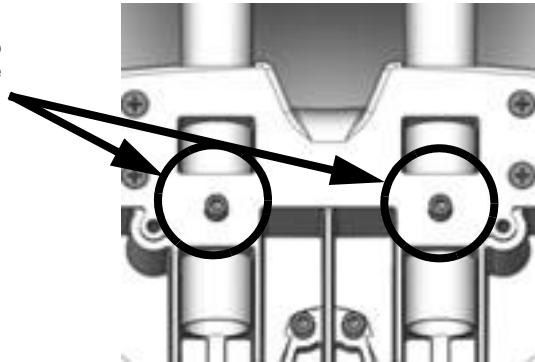

Figure 3-5. Remove Screws to Release the Back Handle Frame
2. Release both of the screws holding the back handle frame (which is marked with circles in Figure 3-5).